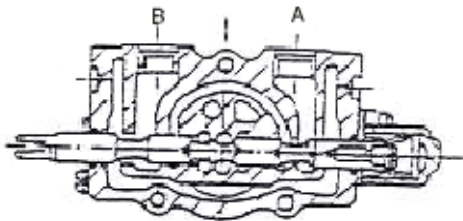

Figure 2-19
(1) Operation of slide valve (take tilting slide valve as an example)
(A) Neutral Position(Figure 2-19)